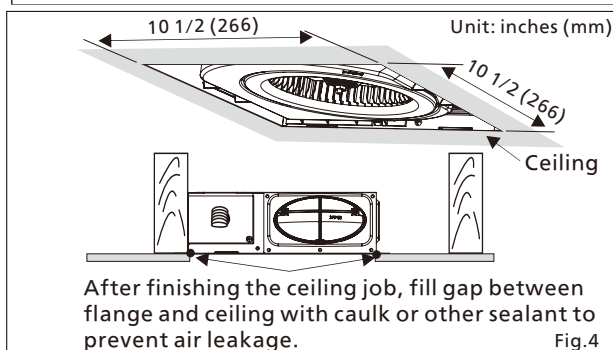

Fig.4
6. Finish ceiling work. Ceiling hole should be aligned with the inside edge of the flange. (Fig.4)